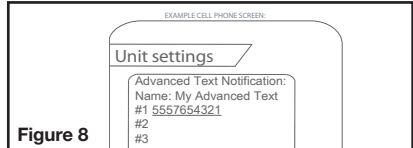

Figure 8
- c. If successful, the device will chirp twice and you will receive a text message to the phone number you just entered in approximately 30 seconds after the device chirps. (Figure 8) You can repeat this process up to two additional phones, using Phone2 and Phone3 commands. See troubleshooting section if this step is unsuccessful. (Page 9)